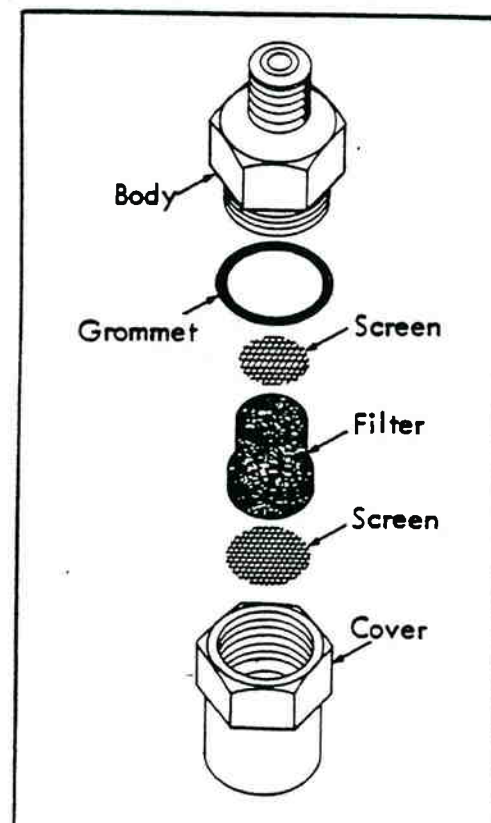

Figure 12-22. Air Line Filter Components.
8. Clamp filter in vise and remove filter element and gasket from body. See figure 12-22.